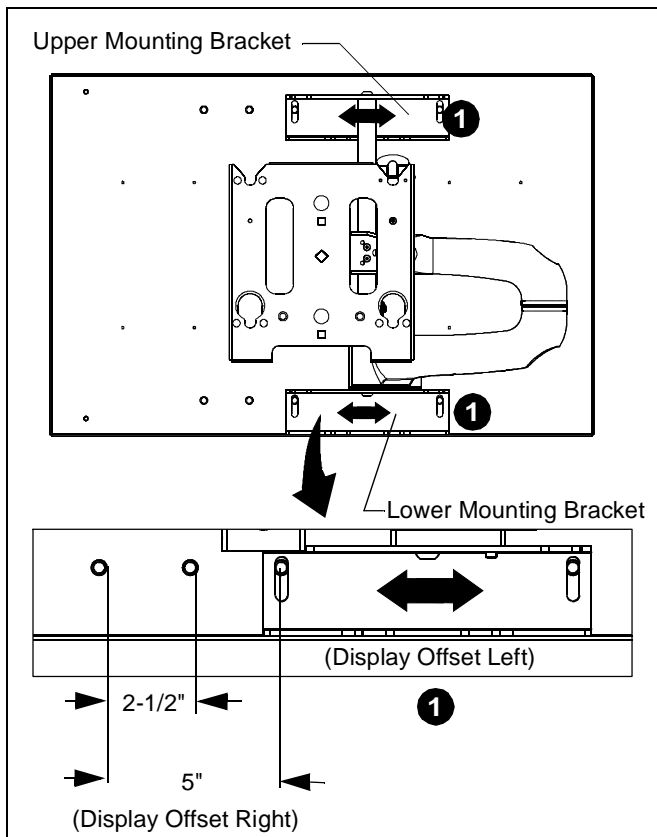

Figure 1
The PAC501 is designed to accommodate up to 5" of right or left display offset. This is accomplished by aligning the upper and lower mounting brackets on the MWRIW with either the right hand or left hand mounting holes in the PAC501. (See Figure 1)
1. Align mounting holes in swing arm UPPER and LOWER mounting brackets with four mounting holes in PAC501. (See Figure 1)